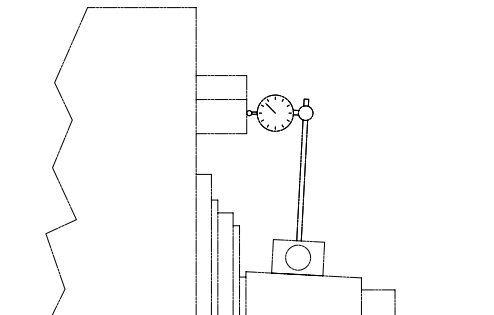

Figure 2
- 2.1.2 All mounting lugs should be flat and within a common perpendicular plane to motor shaft. To verify this, number each mounting lugs one thru four. Place a magnetic base and dial indicator on the motor shaft, positioning the tip of the indicator on mounting surface of the lug marked #1 and zero the dial indicator. See Figure 2.